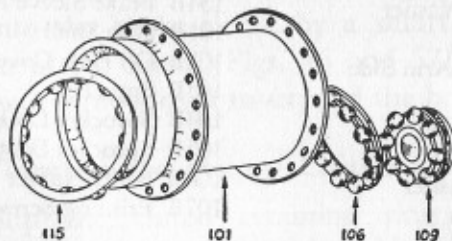

Fig. 60. Installing the bearings.
- Now turn the wheel over (Fig. 60).